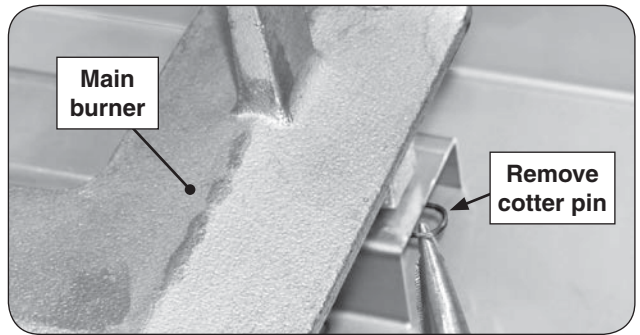

Fig. 49-1 Main burner removal
2. Locate and remove the cotter pin from the left or right rear burner anchoring peg by pulling it straight out of the cotter pin hole using fingers or needle-nose pliers. See Fig. 49-1.